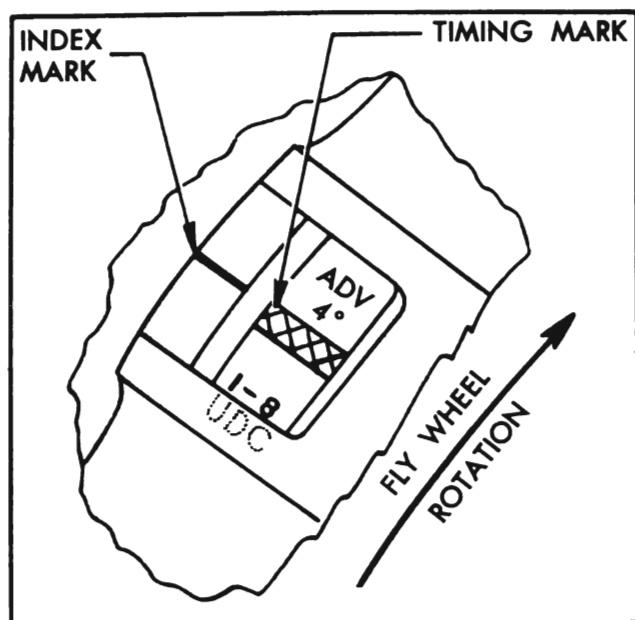

Figure 10-78—Ignition Timing Marks—Series 40-50
The timing mark stamped on flywheel is  $\frac{1}{8}$ " wide, knurled, and painted yellow. The  $\frac{1}{8}$ " width provides a tolerance of one degree when setting the timing. On Series 40-50, the timing mark is stamped "ADV  $4^\circ$ " and gives a timing setting  $4^\circ$  to  $5^\circ$  ahead of upper dead center. See figure 10-78. On Series 70, the timing mark is stamped "ADV  $6^\circ$ " and gives a timing setting  $6^\circ$  to  $7^\circ$  ahead of upper dead center.
The upper dead center mark on flywheel, stamped "U.D.C. 1-8", follows closely behind the ignition timing mark as the flywheel rotates. See figure 10-78. This mark must not be used for ignition timing.
3. Direct the beam of timing light into the timing hole so that the timing mark on flywheel and index mark on flywheel housing can be observed. See figure 10-78. The index mark must fall within the yellow band of the ignition timing mark for proper timing.